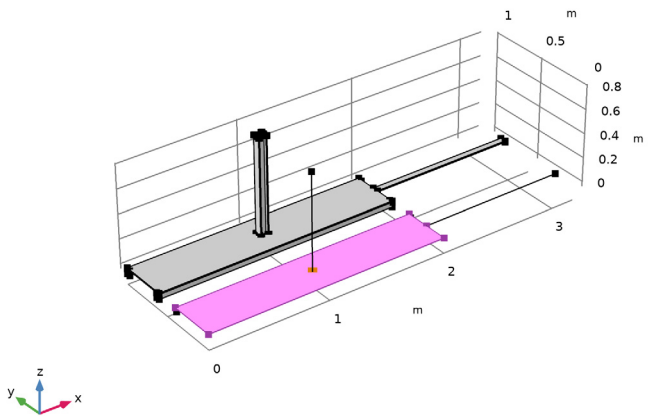

Figure 7: Shell-beam connection with beam normal to the shell
- The H-section beam is perpendicular to the plate (Figure 7). The endpoint of it is connected to a representative region on the shell surface, using a Boolean expression